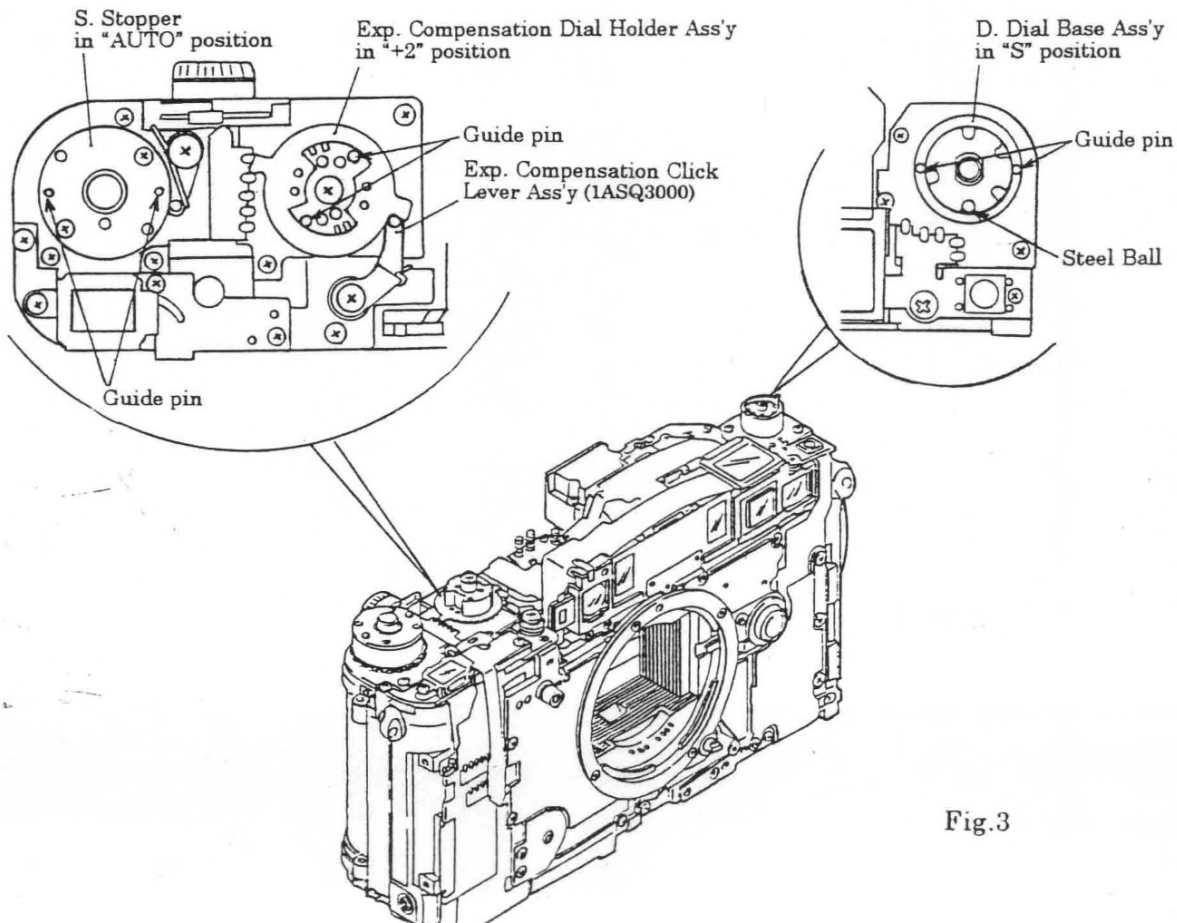

Fig.3
- Set the S. Stopper (1AS23710) in the position as shown in Fig. 3.
- Set the Exp. Compensation Dial Holder Ass'y (1ASR0000) in the position as shown in Fig. 3.
- Set the D. Dial Base Ass'y (1ASN2000) in the position as shown in Fig. 3.